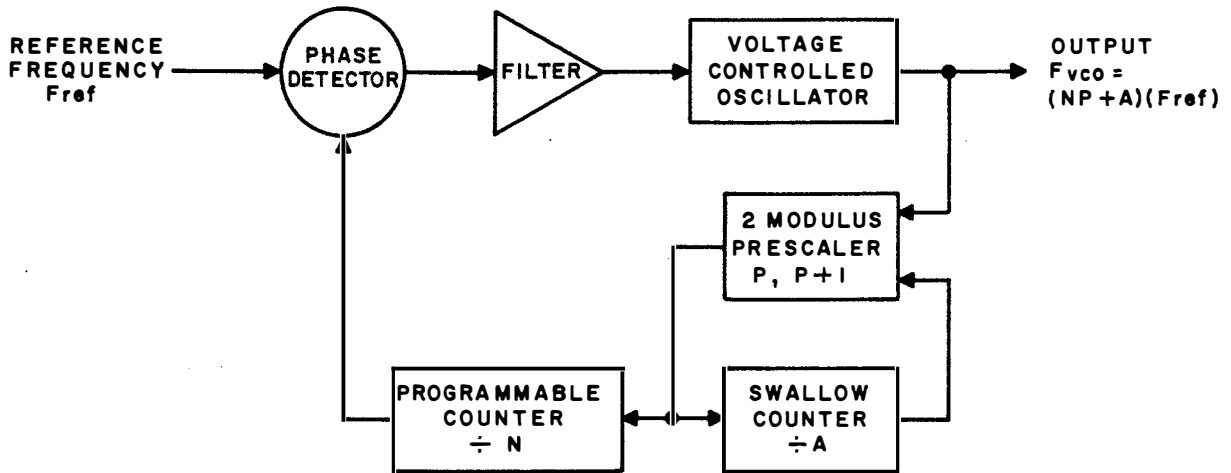

Figure 3-10. Two-Module Prescaling in the Phase Lock Loop
**3-83. PHASE LOCK LOOP PRESCALING TECHNIQUE.** A variation of the basic phase lock loop, shown in figure 3-10, is utilized in the 1st and 2nd LO Synthesizers. The divider portion consists of two module prescaler and two programmable counters. The two-module (divider) prescaler accepts the output from the VCO and divides it by one of two numbers (P or P+1). The prescaler in the 1st LO is a divide-by-50/51 counter and the 2nd LO prescaler is a divide-by-100/101 counter. The swallow counter controls the number of